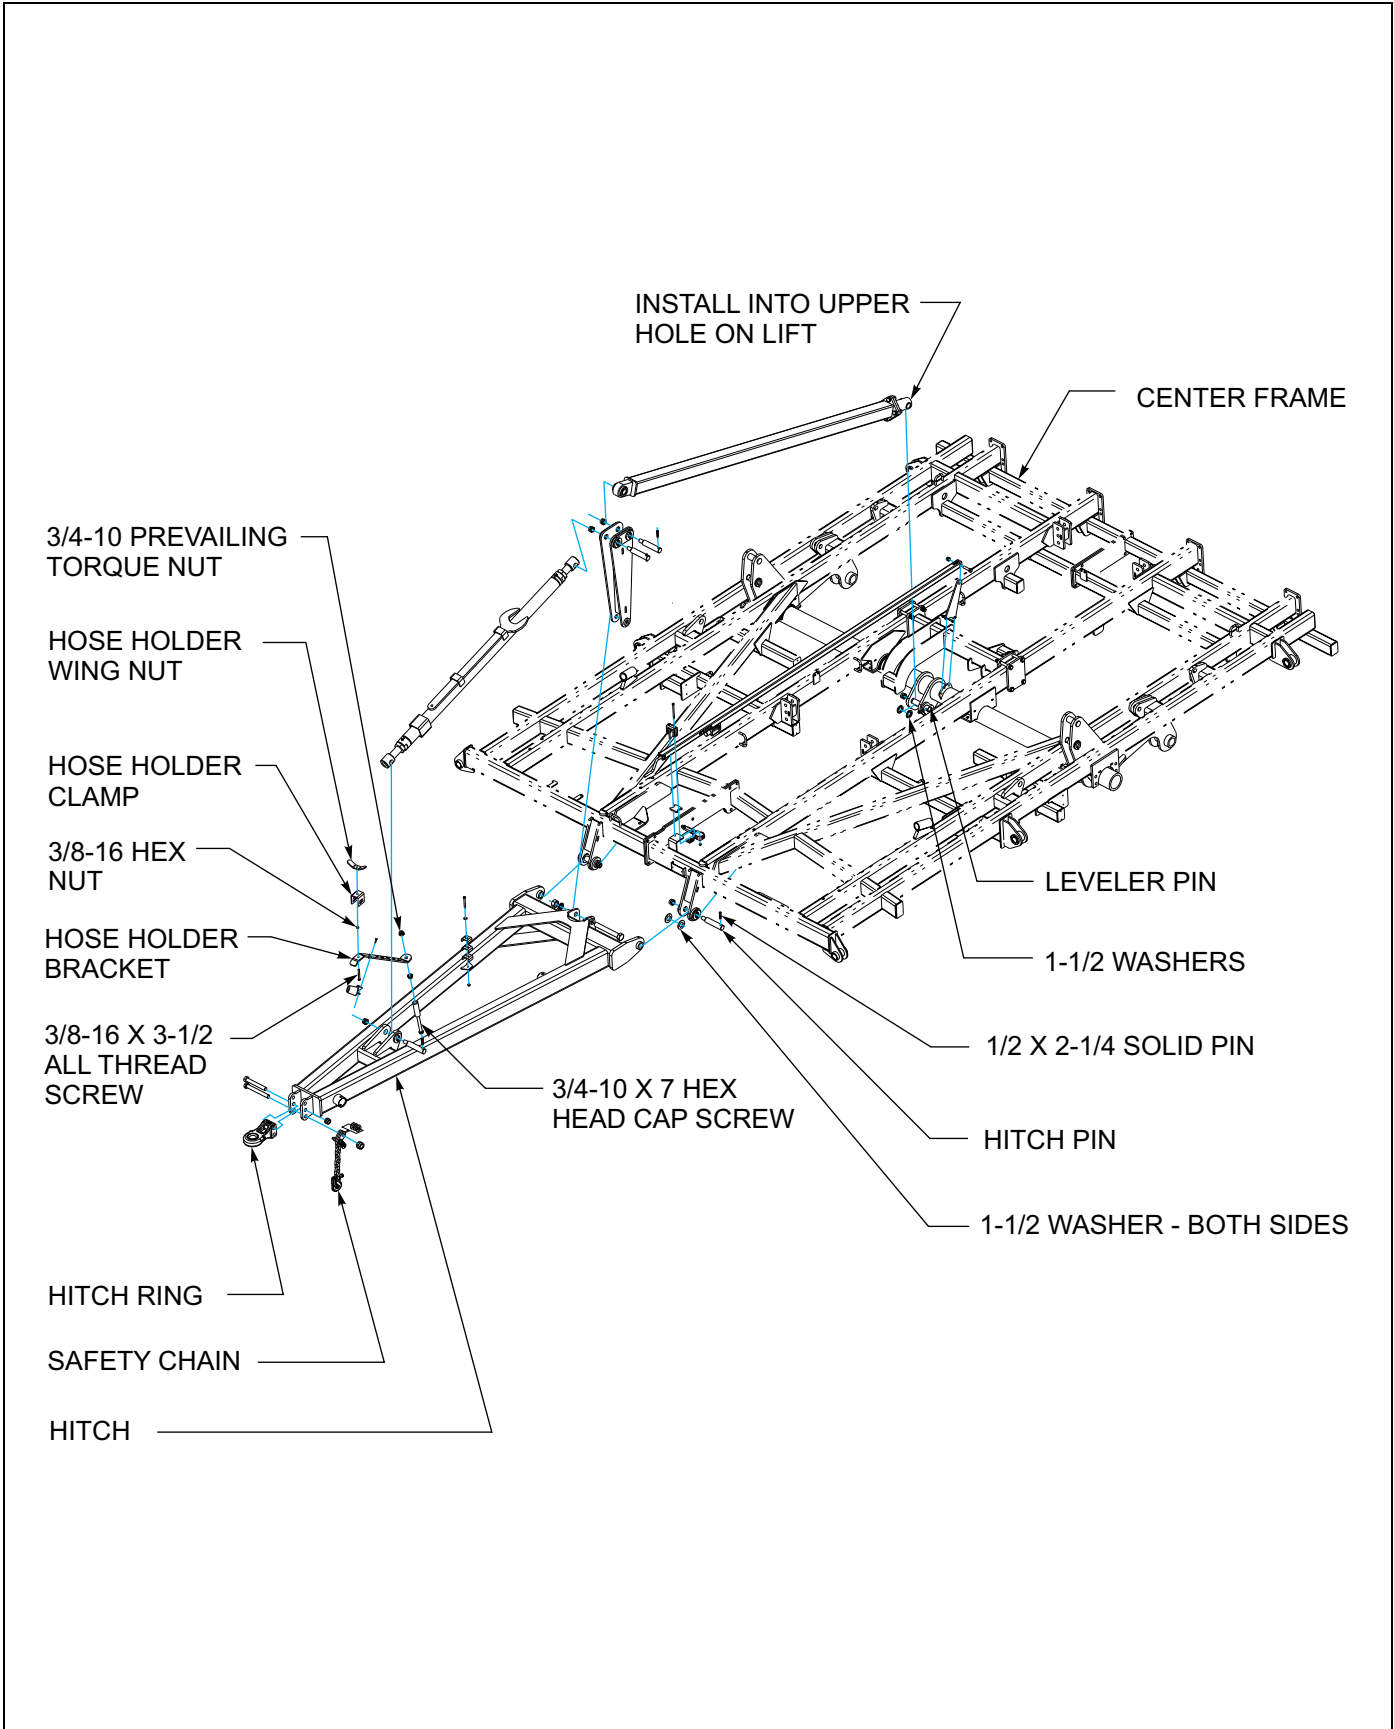

Figure 3-3: Frame and Hitch Assembly
6. Attach the rear of the hitch to the front of the center frame using hitch pins, 1/8 hex nuts, and 1/2 x 2-1/4 solid pins. The pins will be installed in the frames. (See Figure 3-3.)